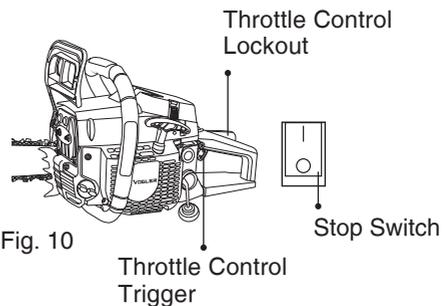

Fig. 10
- Move the stop switch up to the STOP position (Fig. 10).